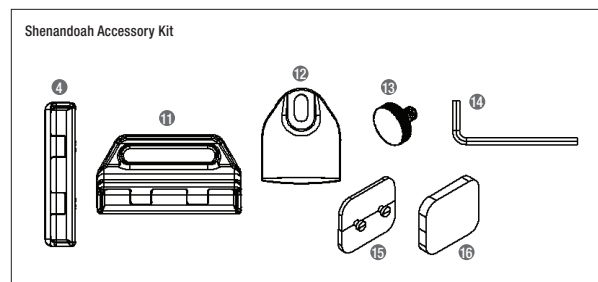

Figure 5
The default behind-the-belt style IWB mounting J-Hook accommodates belt sizes from 1.5" to 1.75" for the Small Barb J-Hook Tab (2) set-up. A Large Barb J-Hook Tab (12) is included in the Accessory Pack (Figure 5) and will accommodate a belt size between 1.0" and 1.375". Swapping out the Barbs is easily achieved via the J-Hook Screw (1).